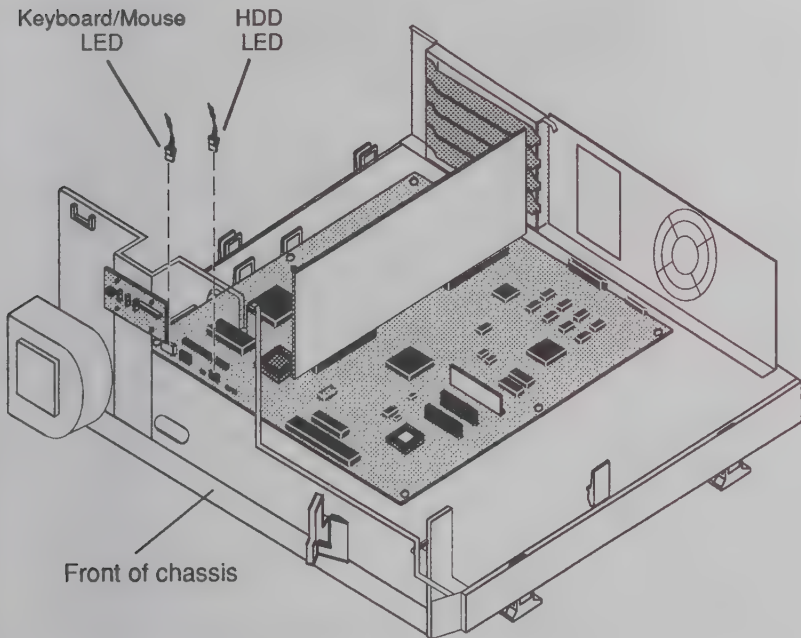

Figure 9 Removing Connectors from the Front of the System Board
4. Disconnect the two connectors at the front left of the system board. See Figure 9.